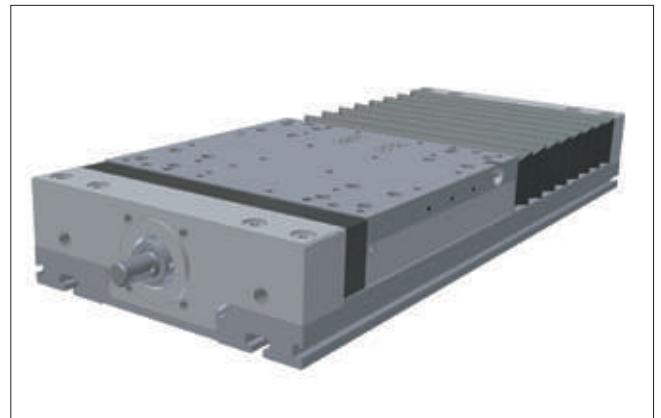

Figure 5.10 ___ AXLT with bellows
- Optimal protection of the inside placed guiding and drive elements as well as the inductive switches by the optional use of bellows (Figure 5.10)